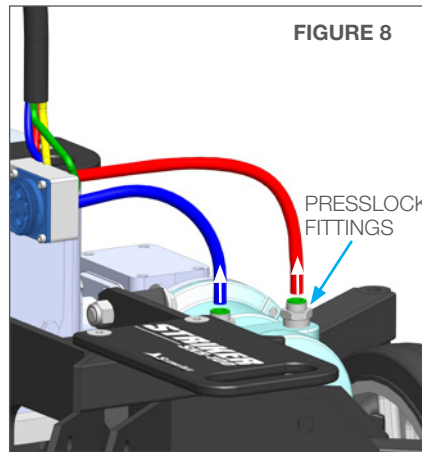

FIGURE 8
- Depress the pushlock fittings on the air motor and pull out the red and blue 1/4" tubing. **(Figure 8)**